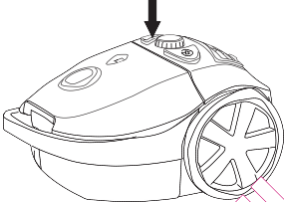

Figure 6 On/Off switch
- Put the plug in the wall socket, and press the On/Off switch. To switch off the appliance, press the On/Off switch again, see Figure 6.